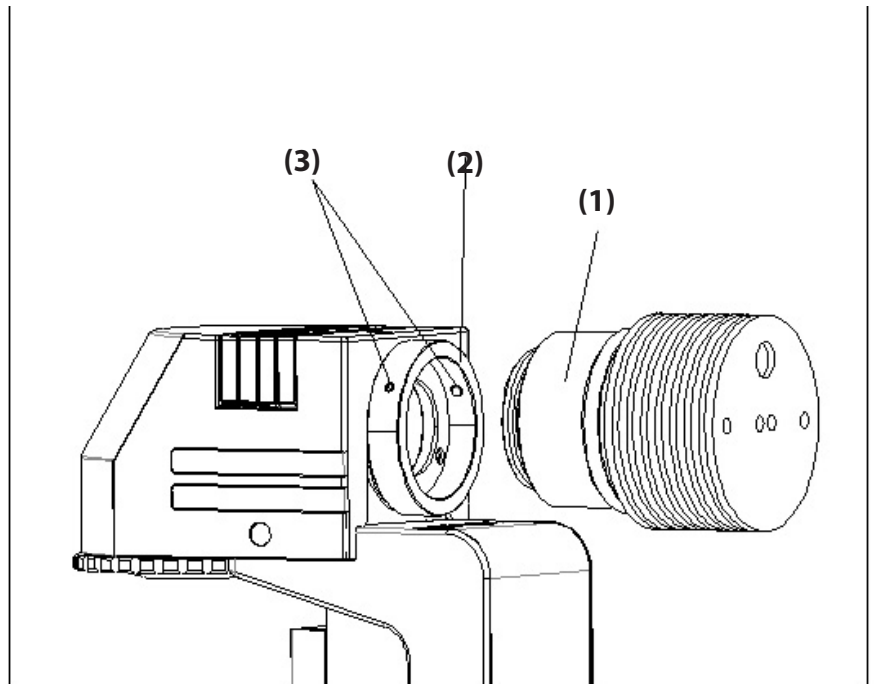
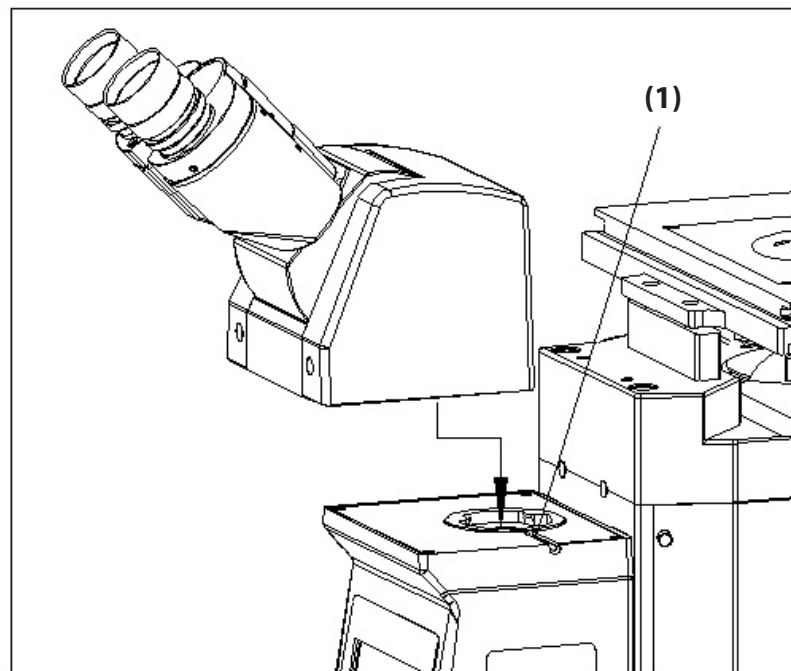

Figure 10
Figure 12
Refer to Figure 10. To assemble the light, first orient the lamp base (1) horizontally and gently push it all of the way into the slot (2) at the back of the microscope. Tighten the fastening screws (3) to secure the lamp in place.
Refer to Figure 12 for reference. To attach the head to the microscope, first fully loosen the set screw (1). With the eyetubes on the head facing forward as shown in Figure 10, align the bottom of the head assembly with the hole on the microscope body. Tighten the set screw (1) to secure the microscope head in place.